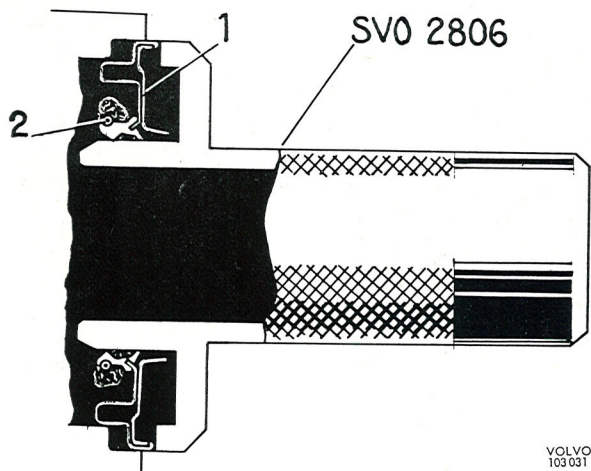

Fig. 4-91. Fitting the oil seal
3. Coat the seal lips of the new ring with grease. Lubricate also the spring coil so that it does not jump off during fitting. Then fit the oil seal with SVO 2806, see Fig. 4-91.